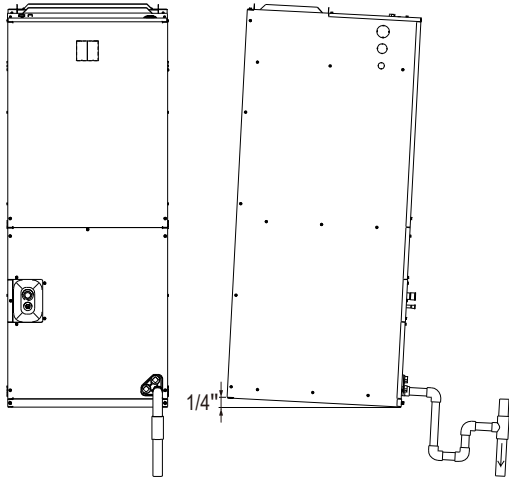
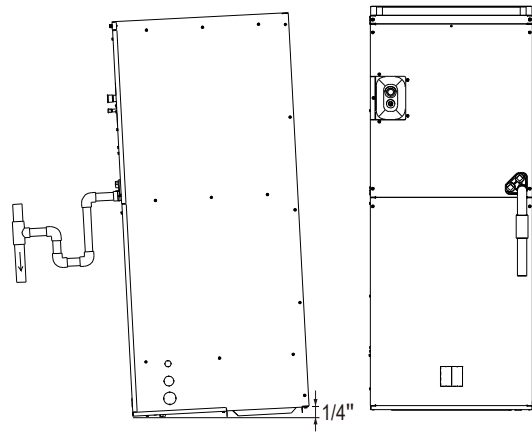
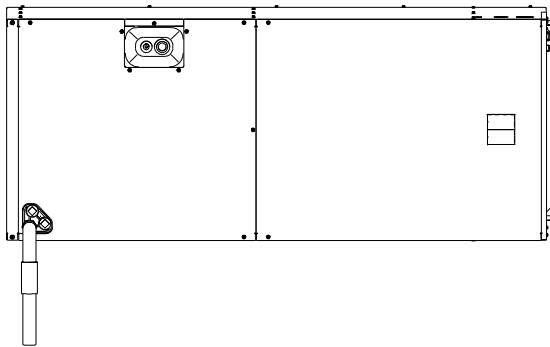

Fig.8-2 Vertically upflow view
Fig.8-3 Vertically downflow view
Fig.8-4 Horizontally right view
- Make sure unit is level or pitched slightly toward primary drain connection so that water will drain completely from the pan. Up to an additional 1/4" rise over the width or depth for the unit is allowed to create additional sloping towards the drain. Unit must be positioned between level and 1/4" rise, sloping toward the drain connections. See Fig.8-2, Fig.8-3, Fig.8-4, Fig.8-5.